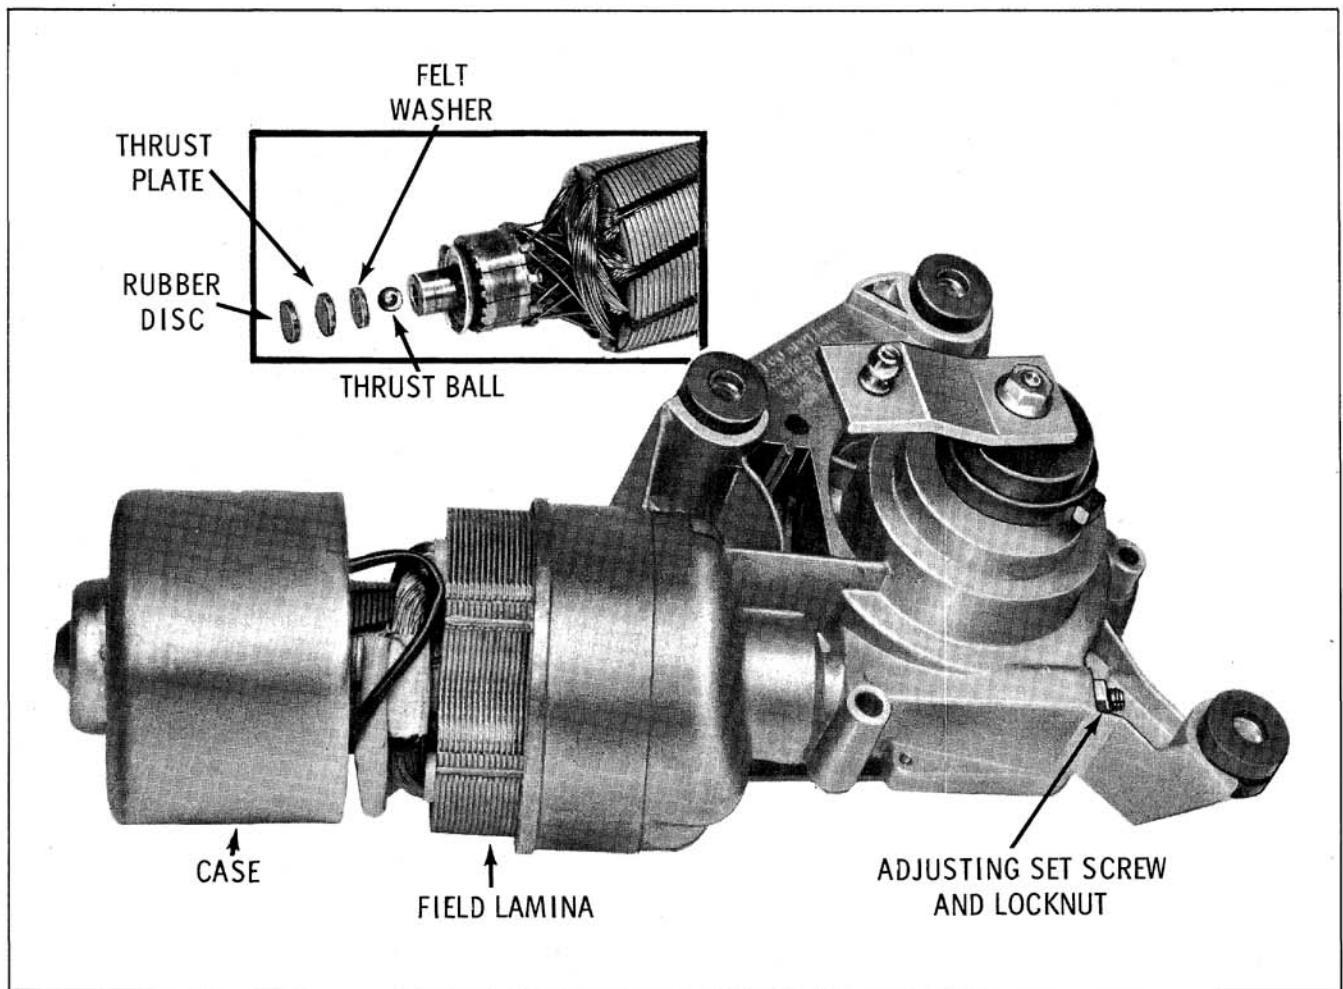

Fig. 13-181 Removing Armature
3. Remove the armature end play adjusting screw and insert a tool through the armature adjusting screw opening. (Fig. 13-181) Push against the end of the armature shaft to back off the case. This will retain the armature commutator in position between the brushes until ready to separate the armature from the case.
2. Install rubber thrust disc, steel thrust plate and felt washer in the case assembly bearing in the order indicated. (Fig. 13-181)